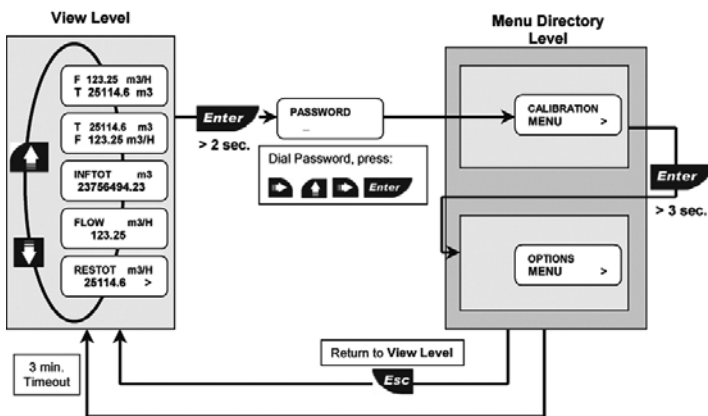

Figure 14 – Password Protected Access
(E) Resettable totalizer value. Press the RIGHT arrow key to reset. If locked, you will need to enter the password first. Lock or unlock the total reset in Option Menu (refer to Figure 14 for password details)
See Figure 14.